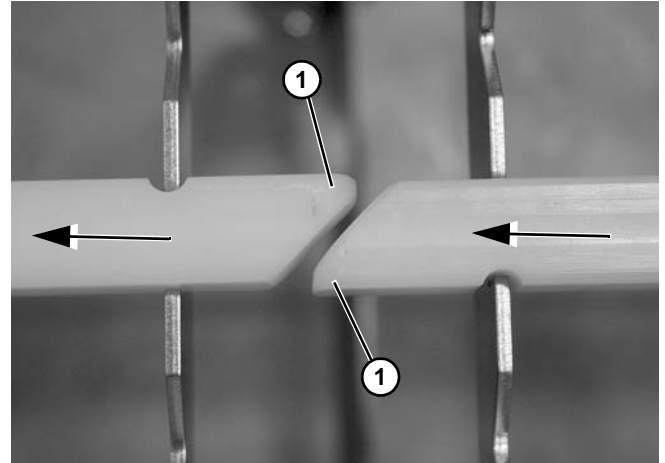

Figure 53
Verify that all wearstrips are installed with curved ends (Figure 53, item 1) in the direction of travel (Figure 53).